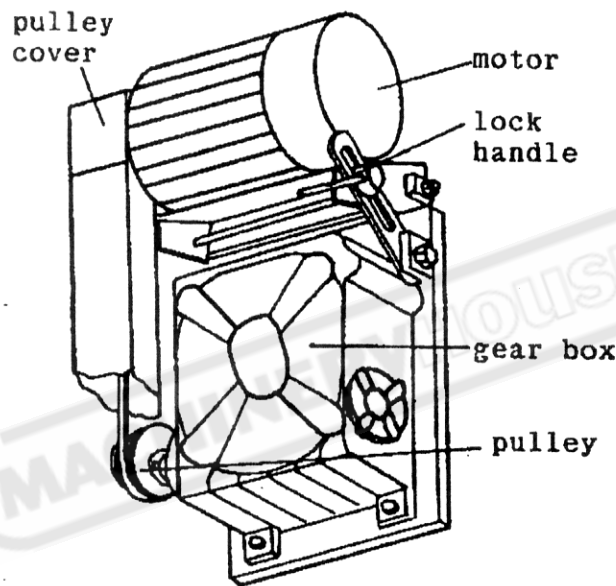

Fig. 1. Speed Swap Configuration
2. Loosen the lock handle, as shown in Fig. 1